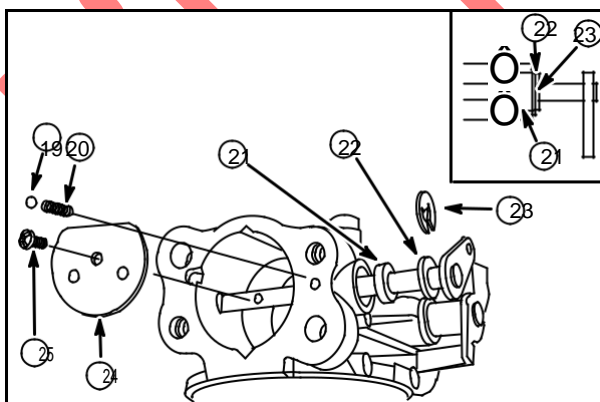

Fig. 31
Remove screw (25) and choke plate (24), **Fig. 31**.